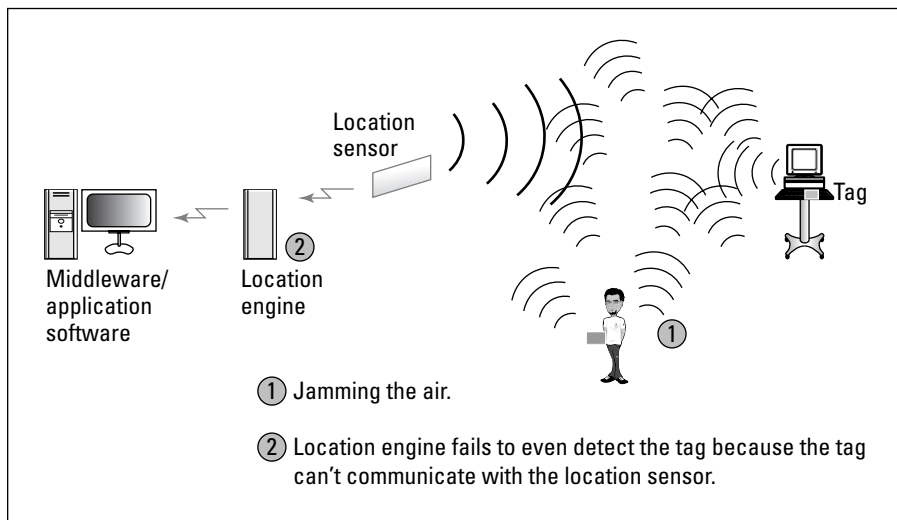

Figure 15-1: Jamming is a network attack.
- ✔ **Jamming:** Jamming occurs when a malicious hacker deliberately disturbs the air interface between the location sensor and the tag and attacks the communication availability (see Figure 15-1).